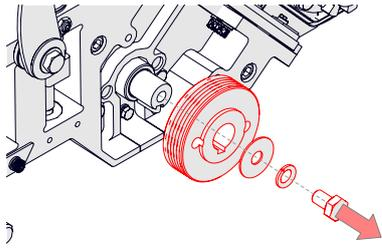

Fig. 16B - Remove the cylinder drive pulley
3. Remove the cylinder drive pulley [19 mm spanner] (Fig. 16B).